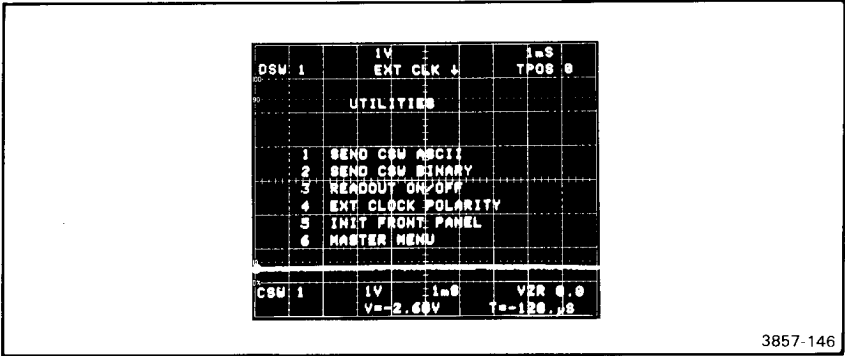

Figure 2-41. External Clock prompt.
4 EXT CLOCK POLARITY. This UTILITIES menu selection displays the current status of the EXTERNAL CLOCK polarity in the prompt field as shown in Figure 2-41. The message "EXT CLK ↓" or "EXT CLK ↑" is displayed (depending on current polarity status) and the arrow will be blinking. The EXT CLOCK polarity will reverse with each additional press of MEMORY DISPLAY key 4.